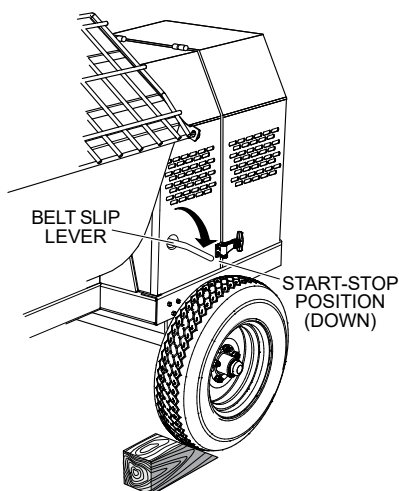

Figure 24. Belt Slip Lever (START/STOP Position)
- Place the belt slip lever in the **START/STOP** (disengaged) position. See Figure 24.